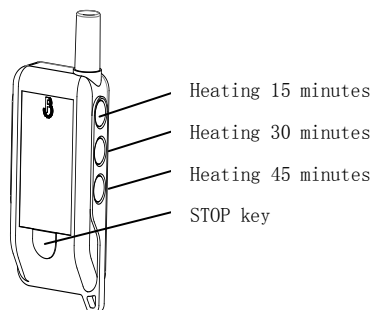

Fig.27
5.4 Remote controller (See Fig.27)